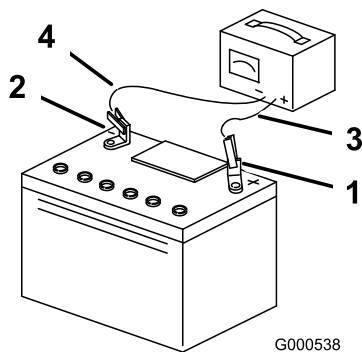

Figure 43
4. When the battery is fully charged, unplug the charger from the electrical outlet, then disconnect the charger leads from the battery posts (Figure 43).